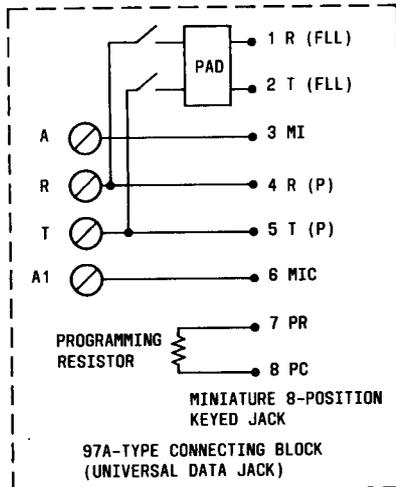

Fig. 8—USOC RJ415, Schematic
2.18 USOC RJ41S: RJ41S is the universal data jack (requires the 97A-type connecting block) for single-line applications of both fixed loss loop and programmed data equipment. The jack is an 8-position miniature keyed jack and is shown schematically in Fig. 8.